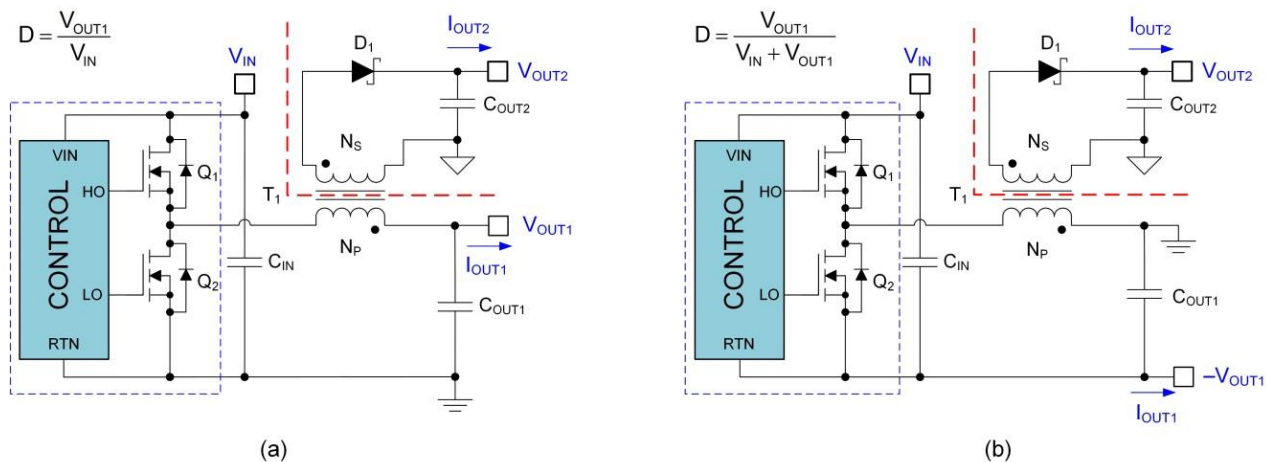

Fig. 1. Fly-Buck (a) and Fly-Buck-boost (b) power stages with primary- and secondary-referenced outputs designated  $V_{OUT1}$  and  $V_{OUT2}$ , respectively.
In general, a Fly-Buck solution provides two or more buck-derived outputs. Shown in Fig. 1 is the typical schematic of a Fly-Buck regulator. An alternative configuration, the Fly-Buck-boost, with negative primary-side output voltage is presented for comparison. The isolation barrier between primary and secondary is delineated in red.
The main output, designated  $V_{OUT1}$ , has feedback regulation and is recognized simply as a buck converter output. The slave output, designated  $V_{OUT2}$  and referenced to the secondary side, is regulated based on the chosen turns ratio,  $N = N_p/N_s$ , of transformer,  $T_1$ . Of course, the voltage drops of the power semiconductors and the transformer windings also come into play. Referring to Fig. 1, the secondary-side output voltage  $V_{OUT2}$  is given by equation (1), where the transformer winding resistances, MOSFET on-state resistances, and rectifier diode forward voltage drop are aptly designated.